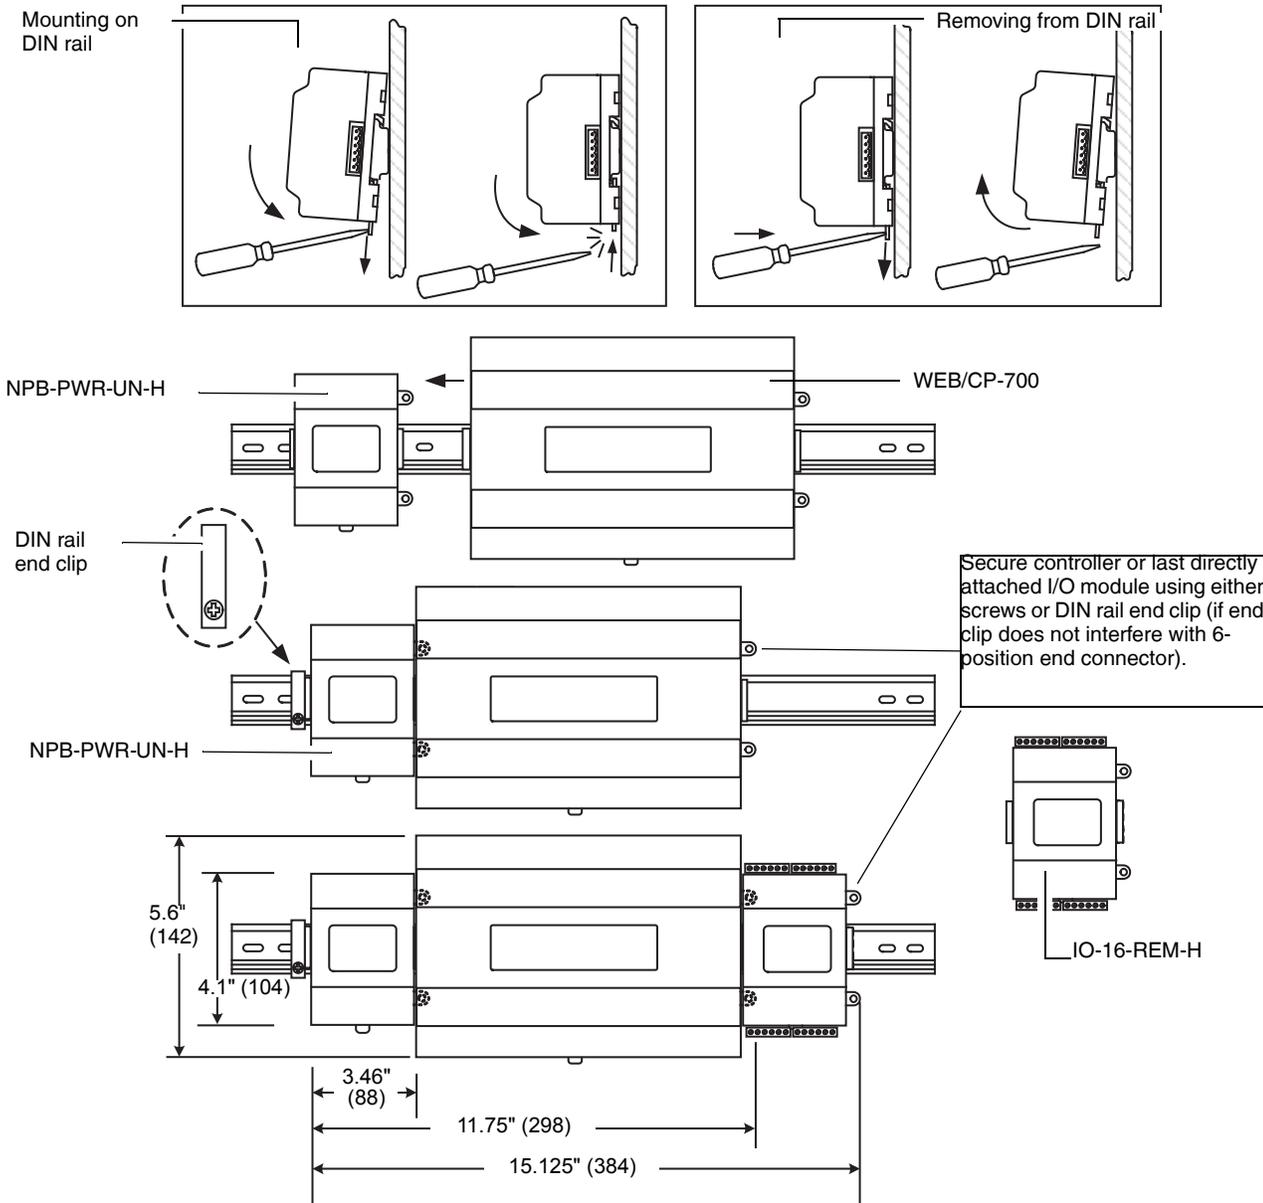

Fig. 3. WEB/CP-700 and accessory mounting details.
Fig. 3 and the following procedure provides step-by-step DIN rail mounting instructions for the WEB/CP-700.
2. Position the NPB-PWR-UN-H power supply module on the rail, tilting to hook DIN rail tabs over one edge of the DIN rail (Fig. 3).
7. To keep the final assembly together, secure at both ends with DIN rail **end-clips** provided by the DIN rail vendor. This also prevents the assembly from sliding on the DIN rail. See Fig. 3.